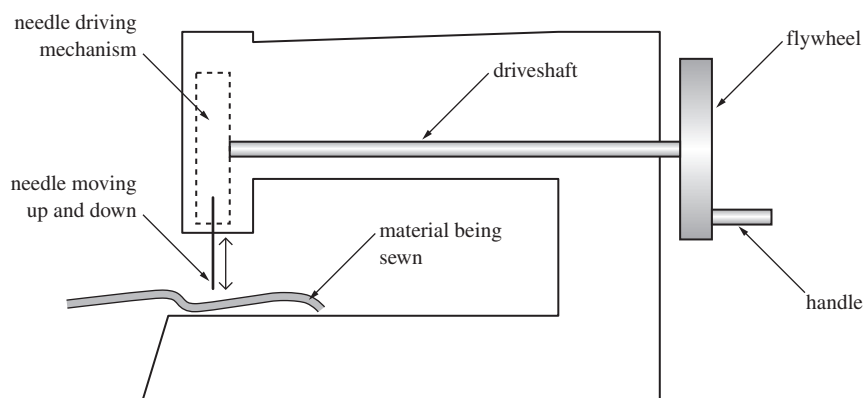

Figure 6
- 6 **Figure 6** shows the basic drive system of a hand-driven sewing machine. During one revolution the torque on the driveshaft varies because of the varying force on the needle when a stitch is made.